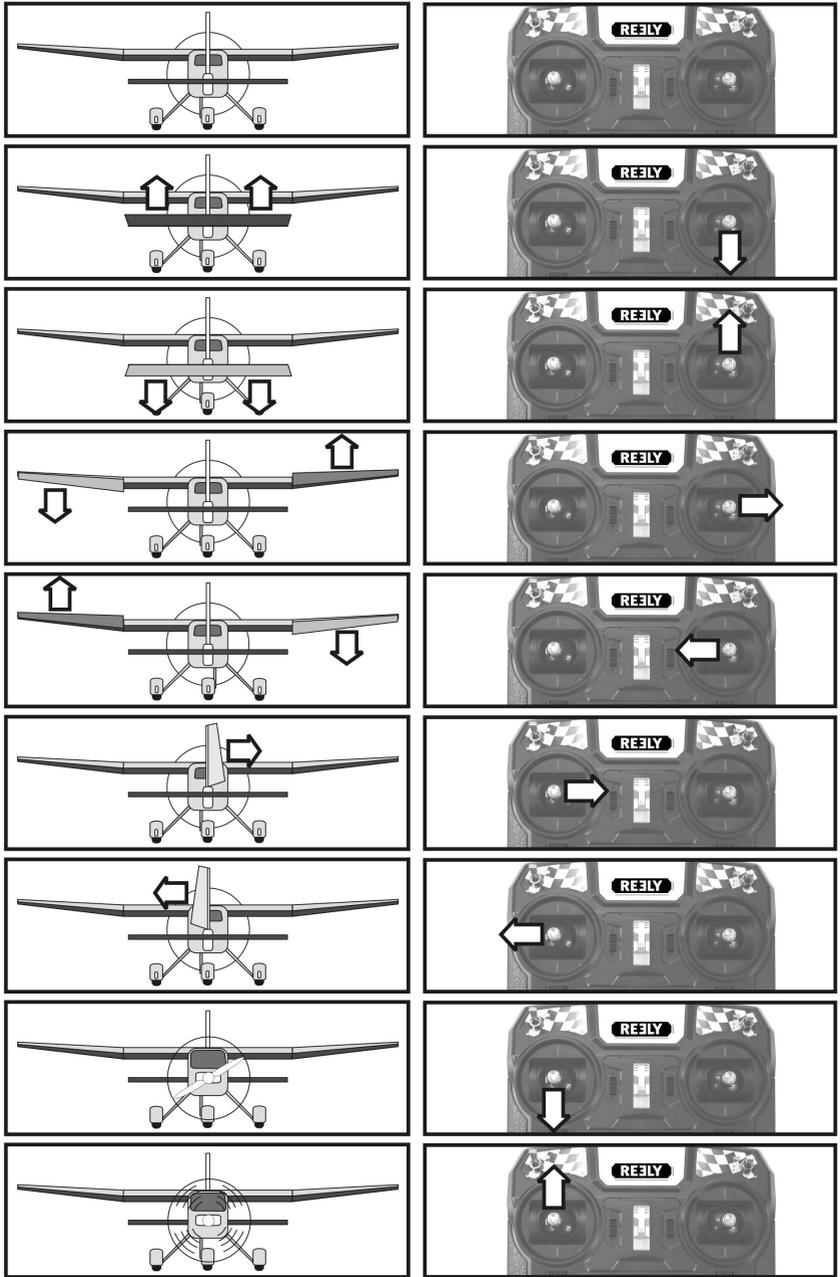

Figure 10
For figure 10 for this section, see the next page.
Take the transmitter into operation, then the receiver. If attached correctly, the servos at outputs 1, 2, 3 and 4, or a speed controller at output 3, should react in the right direction to the movements of the control levers according to the illustrations in figure 10.
The linkage rods of the rudders must be adjusted so that the rudders are all aligned precisely centrally if the control lever and the trimming are in the central position (also see top sketch in figure 10).
If the servos or rudders react in precisely the opposite manner as shown in figure 10, the reverse switches (see following chapter) can swap the running direction of the respective servo.
If the rudder movements are not according to figure 10, you can switch the running direction of the servos at the receiver outputs "CH1" to "CH 4" at the reverse switches (also see figure 1, item 9). The switches at the transmitter are assigned as follows:
If you want to control your flight model according to the chart shown in figure 10 (mode II), you can skip this section. If you prefer the throttle function on the right control lever and the elevator function on the left one (mode I), you may convert the transmitter accordingly.